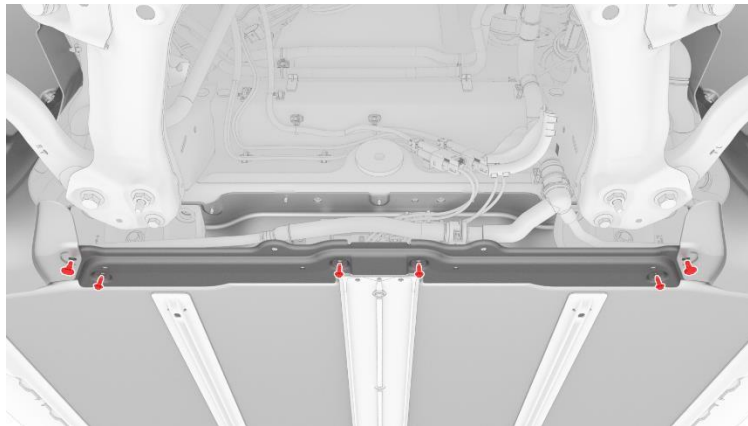

Figure 10 – Skid plate bolts
2. Remove the front skid plate (Figure 10) (refer to Service Manual procedure 16102002; Model 3, Model Y).